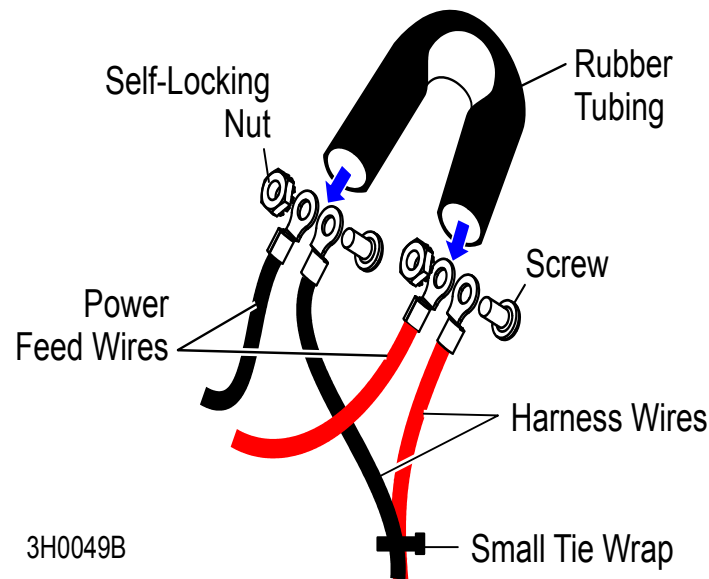

FIG. 1-13
See Figure 1-13. To connect, bundle the two harness wires together with the small tie wrap. Connect the blue power feed wire to the blue harness wire with a screw and a self-locking nut. Connect the green power feed wire to the green harness wire with a screw and a self-locking nut. Slip one end of the neoprene tube around each wire/harness connection. Secure the tubing around the connections with the large tie wrap.
5. Install the long harness through the control box grommet. Use the small tie wrap to bundle the two harness wires together as shown. Connect the blue and green power feed wires to the respective blue and green harness wires with the screw and self-locking nut provided. Slip the supplied neoprene tube around both wire/harness connections as shown. **See Figure 1-13.** Keeping the tubing folded tight, use a large tie wrap to secure the bundled connection to the yellow, red and brown wire harness in the control box. Tuck the excess length of wires into the left front corner of the control box and replace the control box cover.